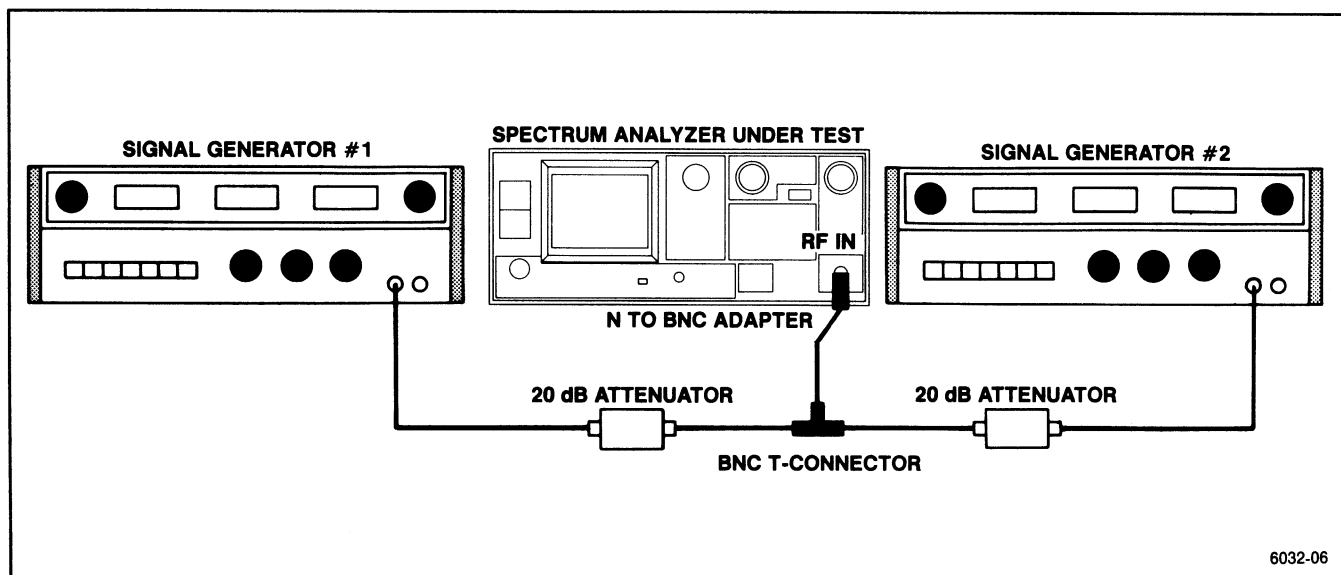

Figure 4-15. Test equipment setup for checking intermodulation distortion.
a. Connect the test equipment as shown in Figure 4-15, and set the Spectrum Analyzer controls as follows: